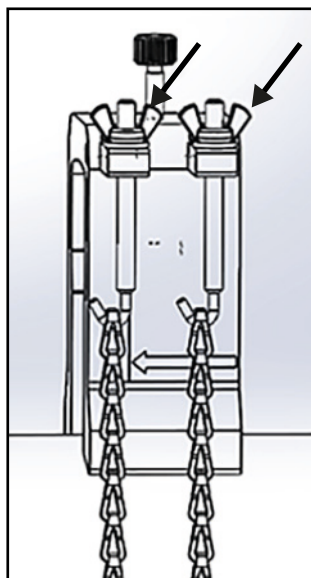

Figure 40: Secure the Yoke
7. Tighten the nuts to secure the yoke to the pipe (see Figure 40 below).